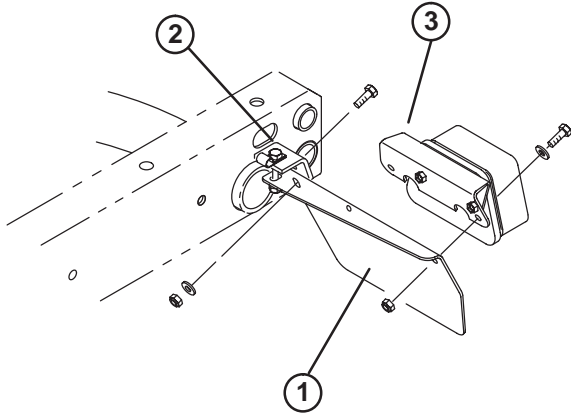

Figure 1
1. Loosen the locknuts and capscrews securing tail light plates to right and left frame brackets (Fig. 1).
3. Secure rear of each tail light plate to rear of frame brackets with a 5/16–18 x 1" lg. cap screw, .281" I.D. flatwasher and nut, as shown in figure 1.